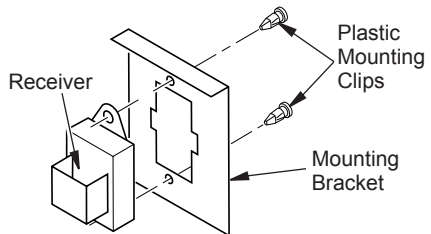

Figure 14 - Installing Remote Receiver (Shown from Rear of Mounting Bracket)
3. Install remote receiver unit onto mounting bracket using two plastic mounting clips (see Figure 14).